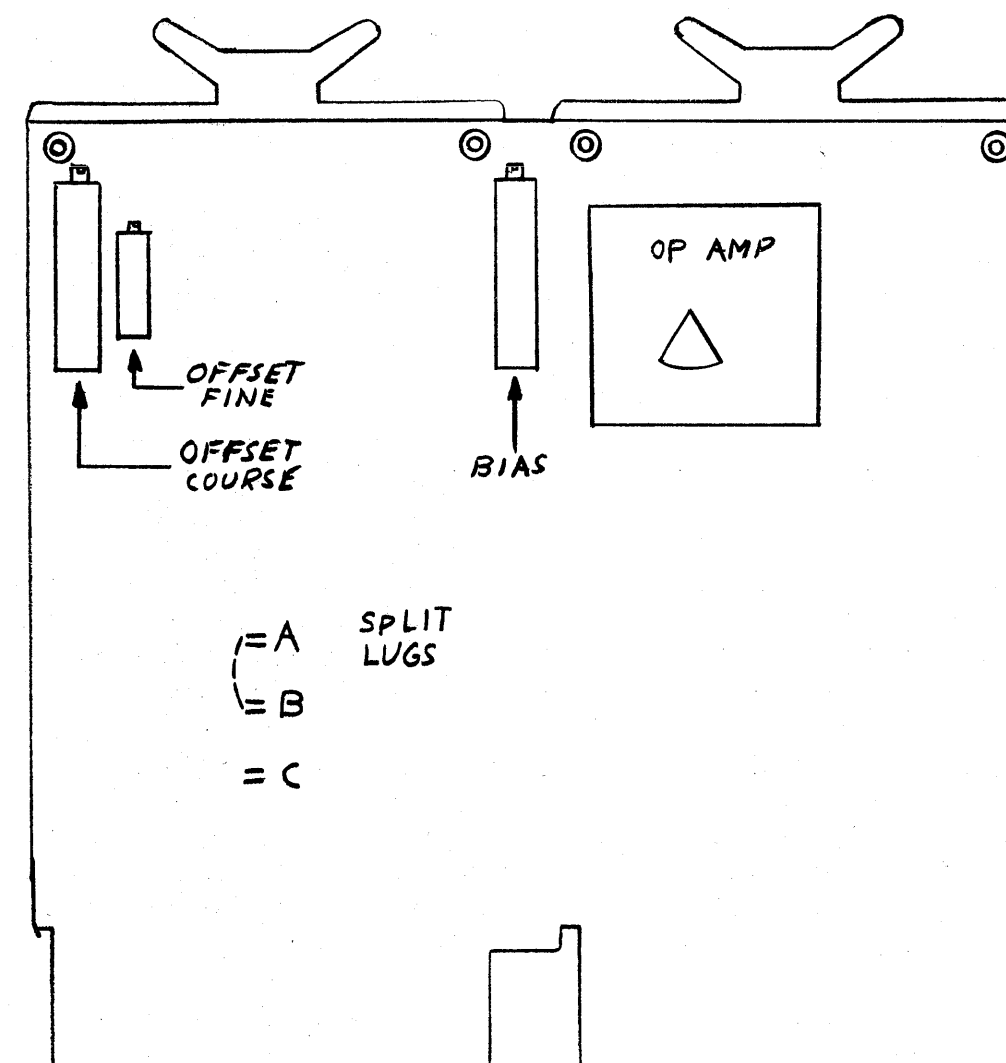

Figure 3.1.2
Referring to Figure 3.1.2, of the A405 module connect a jumper between split lugs A and B then insert the A405 in slots AB15. Perform the following steps:
3. Adjust the bias pot on the A405 module (Figure 3.1.2) so that data bit 00 just blinks on and off.
7. Adjust the offset course pot (Figure 3.1.2) so the DVM reads -10.000 volts as possible.
8. Adjust the offset fine pot (Figure 3.1.2) so the DVM reads -10.000 volts.
Referring to Figure 3.1.2 of the A405 module connect a jumper between split lugs A and B then insert the A405 into slots AB15.
3.3.2 Remove the A220 slot A16 and connect the EDC to pin A15S2 and A16F2 (ground). Set the EDC to +5MV and start the Diagnostic at 220. Adjust the offset pot on the A405 module (Figure 3.1.2) for LSB switching at 5MV.